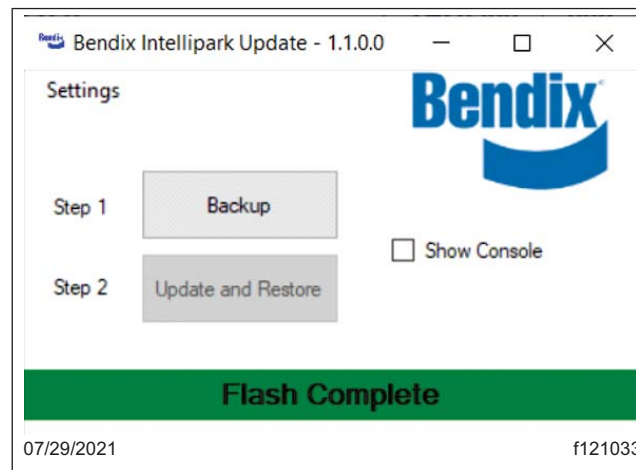

Fig. 14, Flash Complete Message Displayed
- Once the update is complete, the message 'Flash Complete' will be displayed. The laptop can be now disconnected from the vehicle. See Fig. 14.